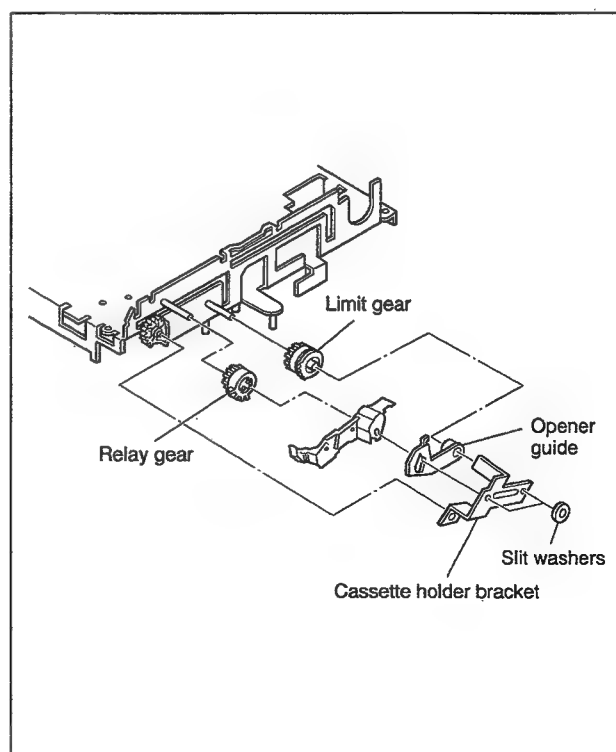

Fig. 2-2-3
- (2) Remove the two slit washers and remove the cassette holder bracket. (See Fig.2-2-3)
- (3) Remove the opener guide, relay gear and limit gear. (See Fig.2-2-3)